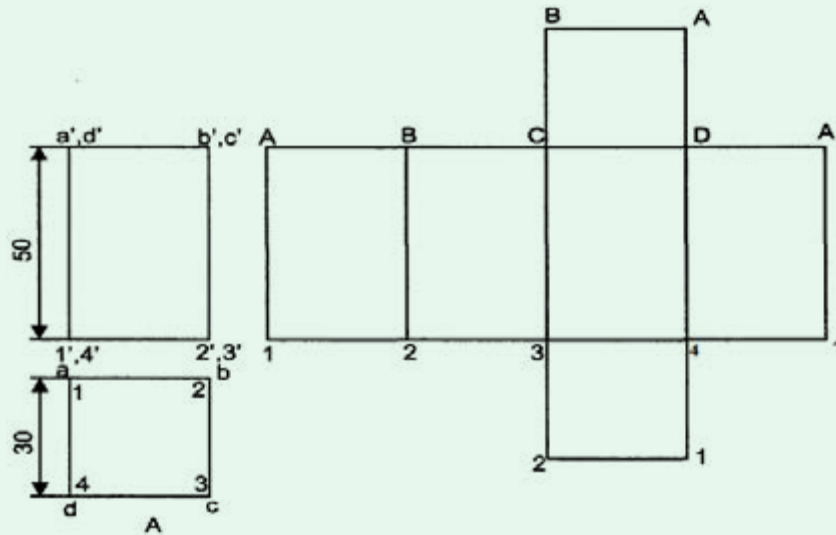

Fig. 3.18: Surface development of a prism (Venkata, 2008)
Step 3: Label the diagram as shown in figure 3.18.